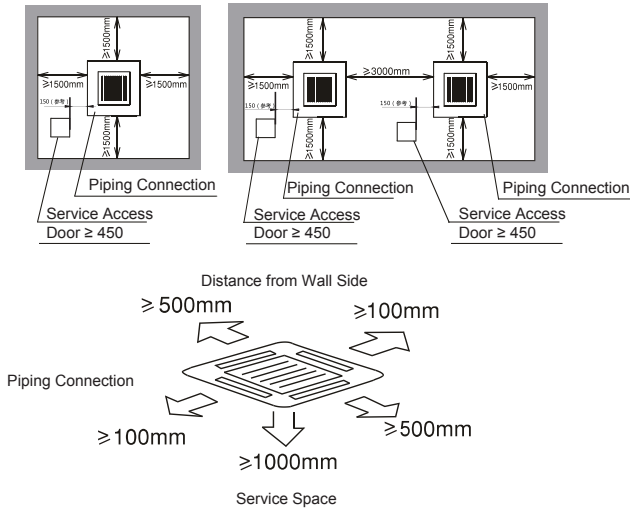

Fig. 4.1 Space around Indoor Unit
- Install the indoor unit in a space for easy operation and maintenance as shown in Fig. 4.1.